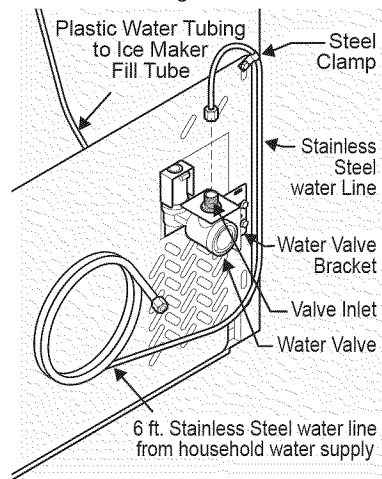

Figure 2
- The nut and ferrule are already assembled on the tubing. Slide compression nut onto valve inlet and finger tighten compression nut onto valve. Tighten another half turn with a wrench; DO NOT overtighten. See Figure 2.